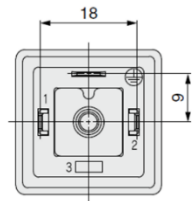

Figure 6. DIN terminal - Form A
- Tighten screws and fittings according to Figure 6.